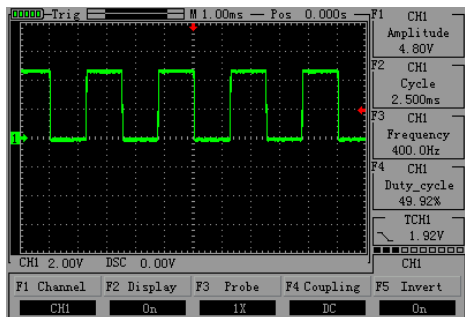

Figure 2-9
- If you set the vertical direction 2.00V/div, probe is set to 1 x gear as an example, Press "  " to adjust the vertical v/case, at the same time can press "  " to move the entire waveform up, down. As shown in figure 2-9